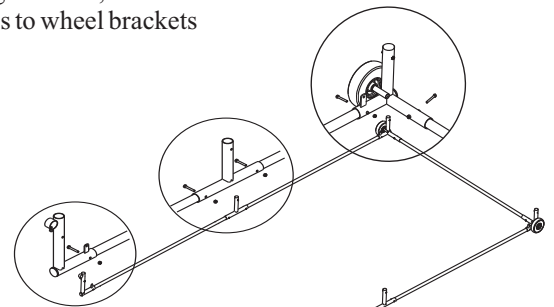

Fig.2
**3** Unpack the bottom side bars (3), the centre brackets (9) or centre wheel brackets (9a), the front handle brackets (8) or front wheel bracket (8a) and the bottom back bar / handle pack (6). Put the handle to one side for a moment, this is the one with no holes. Collect 10 x M10 x 70mm hex bolts (17) and 10 x M10 nylock nuts (18). Line up all the holes in the base bars, and the joining brackets, and lock each joint with the 70mm long bolts and M10 nuts as shown in Fig.2. (Same applies to wheel brackets CRK-156)